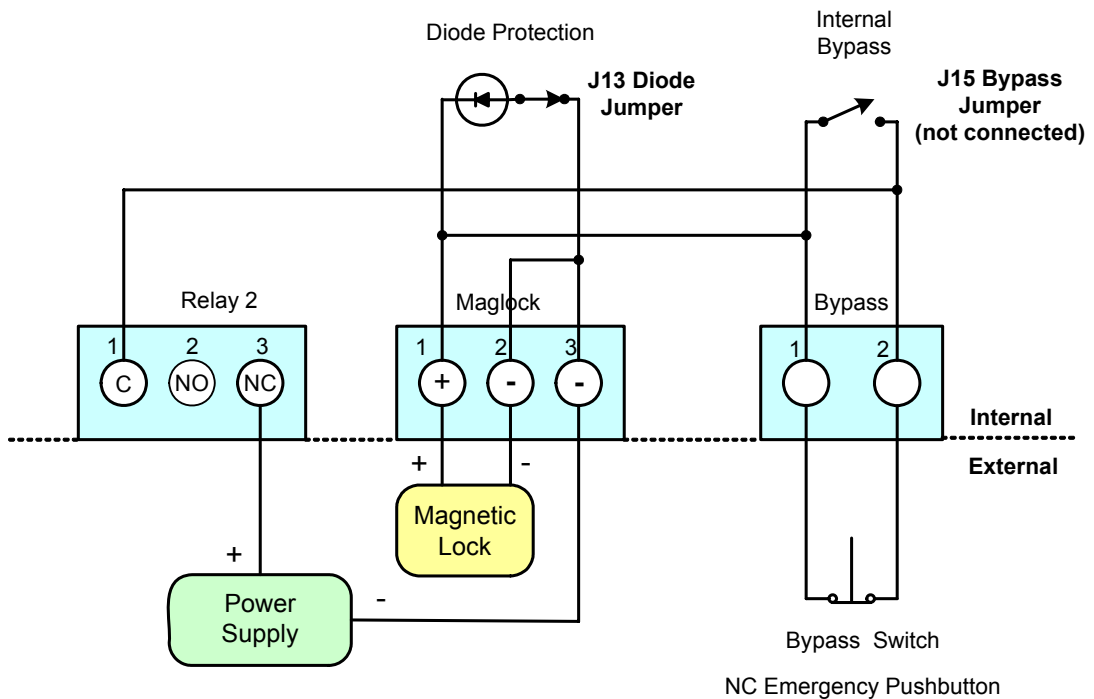

Figure 4.10: RM-4E Magnetic Lock Wiring – Relay 2
Figure 4.10 shows magnetic lock wiring. The normal state of a magnetic lock is to have current flowing through an electromagnet on the lock that pulls a strike plate with a force 500-2000 lbs. (227-907 kg.). Safety codes usually require a bypass switch for emergency egress. This is not the Request to Exit (REX) switch. The REX function is usually accomplished with a PIR.
Connect the power supply, magnetic lock, and bypass switch as shown in Figure 4.10.
Connect a normally closed (NC) emergency Bypass switch as shown in Figure 4.10 on page 4-20. Remove (open) the J15 Bypass jumper for normal operation.
When using the configuration shown in Figure 4.10, the magnetic lock stays locked if the RM-4E loses its' connection to the apC or iSTAR because the normally closed (NC) connection of Relay 2 is used. The magnetic lock also remains locked if the RM-4E loses power.
If the power supply shown in Figure 4.10 fails, the magnetic lock unlocks, regardless of whether normally closed (NC) or normally open (NO) is used.